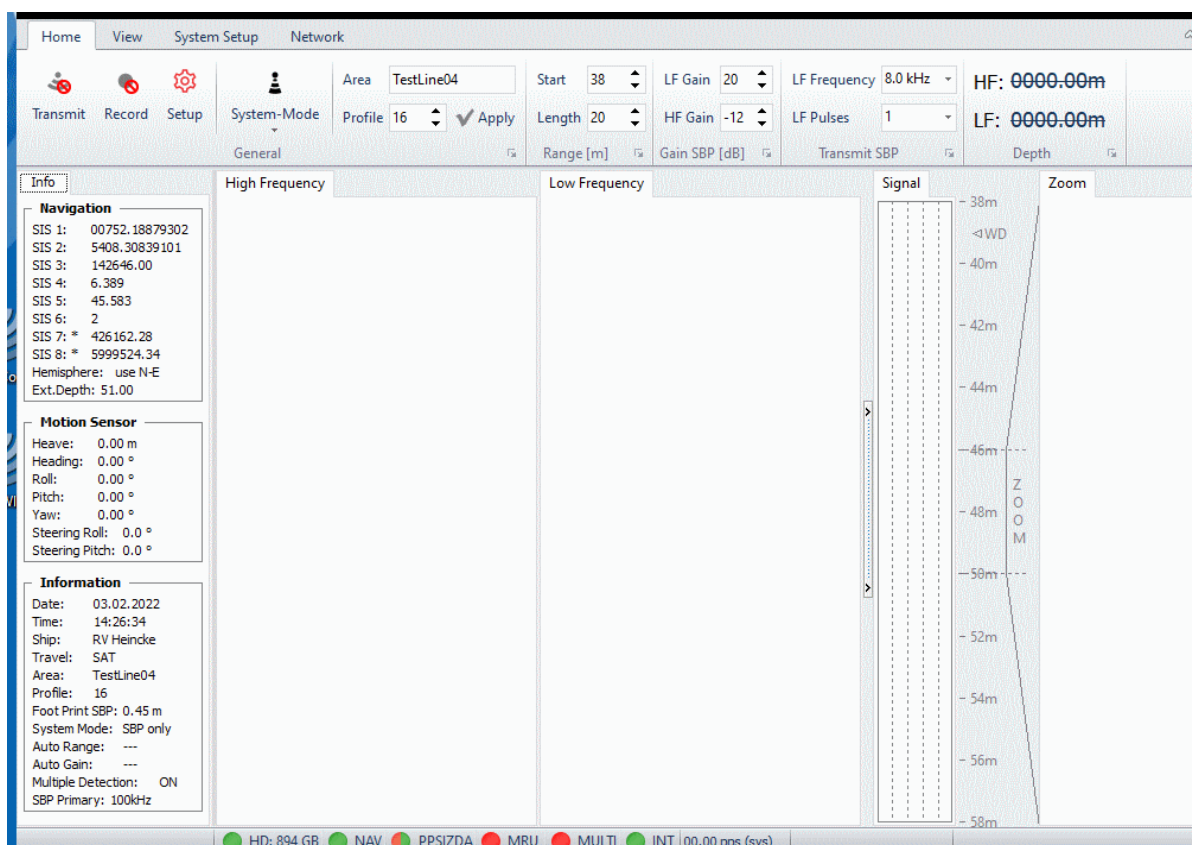

Figure 3: Home window of SES data acquisition software
Figure 3 shows the home window of the SES data acquisition software. On the lefthand side data of the navigation and motion sensor are visible as well as some information on the journey. In the menu bar in the upper part the button “**Transmit**” will activate pinging and data will become visible in the frequency windows. Button “**Record**” will start the data acquisition. High frequency (HF) data, low frequency (LF) data, signal strength and a LF zoom window will be shown by default. Range, gain, LF frequency and LF pulses can be directly changed in the home window menu bar in the upper part. Changes employed in the home window menu bar during data acquisition are final. They are set by the hardware and cannot be changed later.